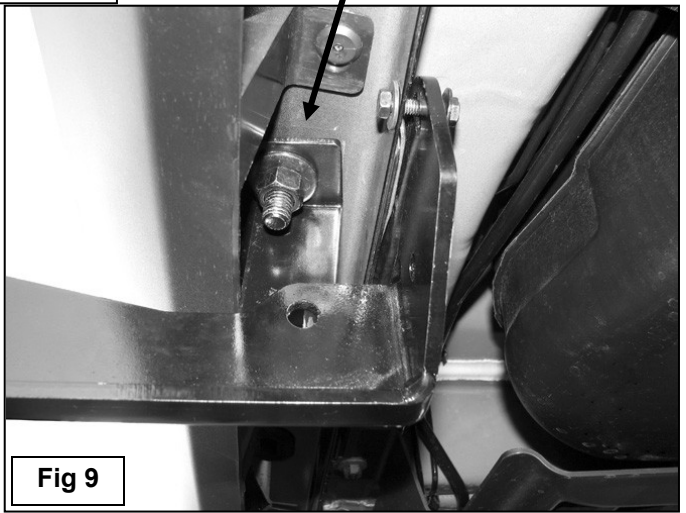
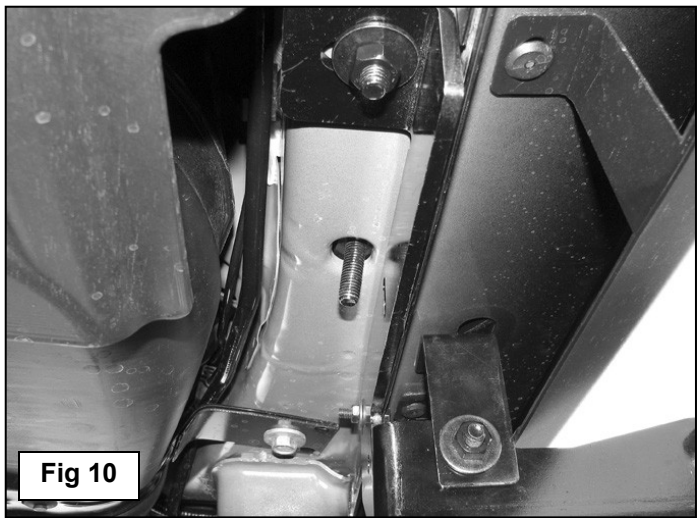

Fig 9
Fig 10
6. Next, select the Driver Side Rear Mounting Bracket. Bolt the Mounting Bracket to the back of the pinch weld with (1) M6 x 25mm Hex Bolt, (2) M6 Flat Washers and (1) M6 Nylon Lock Nut installed in the rearmost mounting hole, **(Figure 9)**. Hang the Bracket from the previously installed forward Bolt Plate with (1) M10 Flat Washer, (1) M10 Lock Washer and (1) M10 Hex Nut, **(Figure 10)**. Line up the hole in the Outer Support Bracket with the hole in the Mounting
Bracket. Bolt the Brackets together with (1) M10 x 30mm Hex Bolt, (2) M10 Flat Washers, (1) M10 Nylon Lock Nut, (Figure 10 & 13). Note: The Outer Support Bracket will line up on the forward facing side of the Mounting Bracket. Do not tighten hardware at this time.
7. Locate the oval hole behind the midpoint of the Bracket. Insert (1) M10 Large Bolt Plate into the hole and rotate 90-degrees to the oval hole as described in Step 4, (Figure 10). Select the Rear Inner Support Bracket. Bolt the Support Bracket to the Bolt Plate with (1) M10 Flat Washer, (1) M10 Lock Washer and (1) M10 Hex Nut, (Figure 11). Line up the remaining hole in the Support Bracket with the hole in the middle of the Mounting Bracket. Bolt the Support Bracket to the Mounting Bracket with the longer (1) M6 x 30mm Hex Bolt, (2) M6 Flat Washers and (1) M6 Nylon Lock Nut, (Figure 12). Do not tighten hardware.